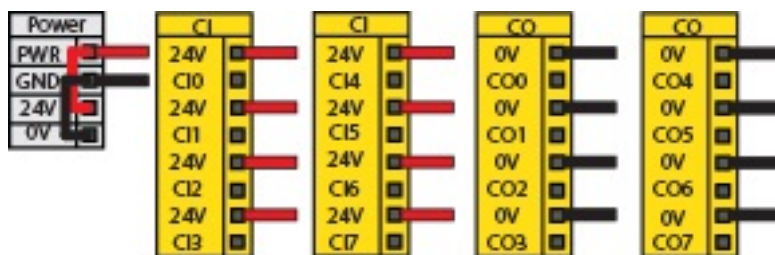

Figure 3.5.1: Power supply wiring on CB3.1 Universal Robots controller.
- With the controller turned off, connect the red (24 V) and black (0 V) wires of the device cable as shown in Figure 3.5.1. Use any available 24 V and 0 V.